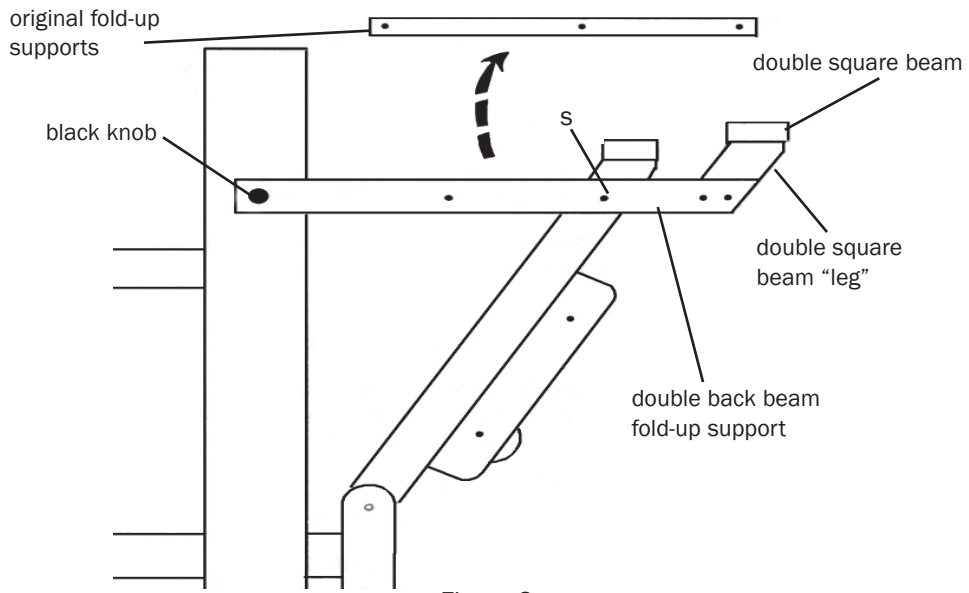

Figure 3
### Install New Fold-up Supports (Figure 3)
8. Place the double square beam on the double square beam legs (see figure 3).